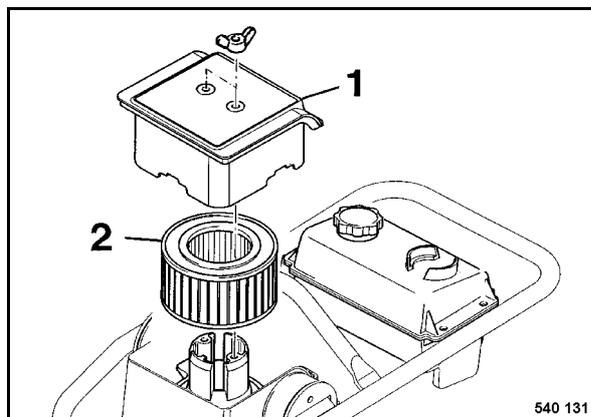

Fig. 60
- Remove cover 1 (Fig. 60), take filter cartridge (2) carefully out.